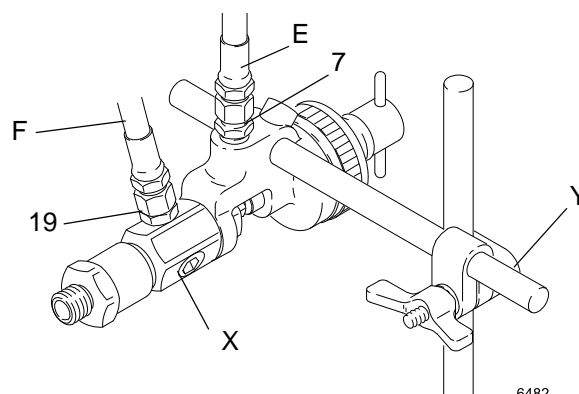

FIG. 2 Model 207440 Shown
Mount the valve on a 0.50 in. (12.7 mm) diameter rod (Y) on a mounting fixture or a dispensing machine. See FIG. 2 and the **Typical Installation**. Models 205435, 205612, and 685457 are supplied with a clamping screw
Use a normally closed 3-way air solenoid valve (G) to control the dispensing valve (J). Attach a grounded air supply line (E) from the 3-way valve to the 1/4 npsm(m) air inlet adapter (7) of the dispensing valve. See FIG. 2.